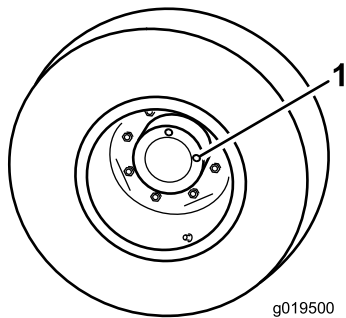

Figure 71
1. Position the machine on a level surface and position the wheel so 1 check plug (Figure 71) is at the 12 o'clock position and the other is at 3 o'clock position.
1. Check/drain plug (2)
2. Remove the plug at the 3 o'clock position (Figure 71).